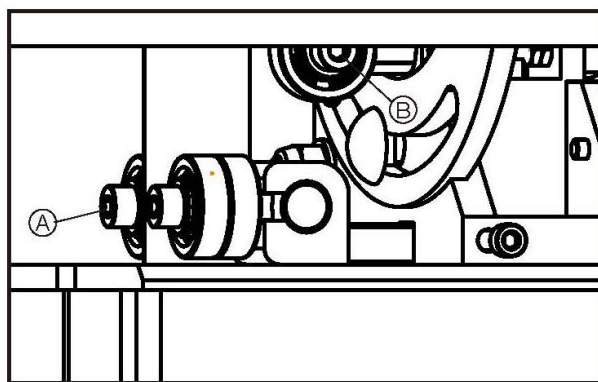

Fig.4.6.2
- To roller bearing should lightly touch the blade, to prevent vibration during operation and ensure correct direction of cutting. The positioning of these rollers is controlled by screw "A" (Fig.4.6.2), once they have been adjusted, tighten the screw "B" (Fig.4.6.2); they should be 2 mm behind the teeth of the blade. The thrust shaft prevents excessive backward movement of the blade whilst in operation, and should be 1-2 mm from the back of the blade: this can be adjusted by screw "B" (Fig.4.6.2).